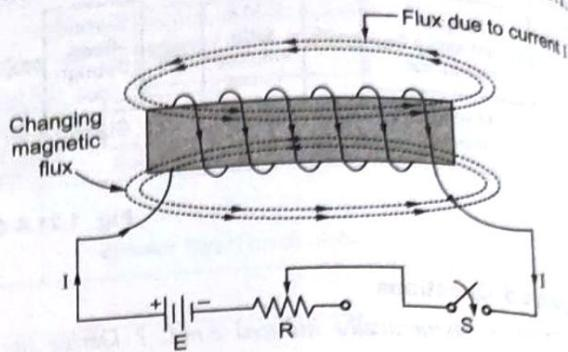

Fig. 1.23.1
- The current magnitude can be varied with the help of variable resistance connected in series with battery, coil and switch as shown in the Fig. 1.23.1.